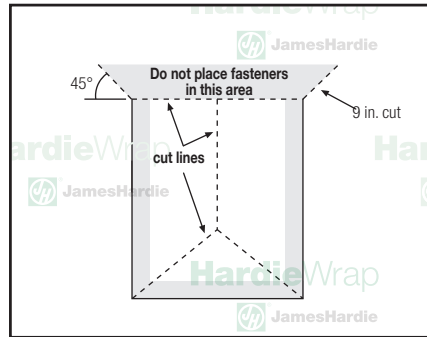

figure 3
Step 1: Use the inverted "Y" cut at rough window and door openings. Do not place fasteners within 9 in. of the rough opening, door or window heads. This area should not be fastened to allow for proper flashing installation. At the top corners of the rough opening, cut the weather barrier at 45° to extend 9 in. past the joint (fig. 3).